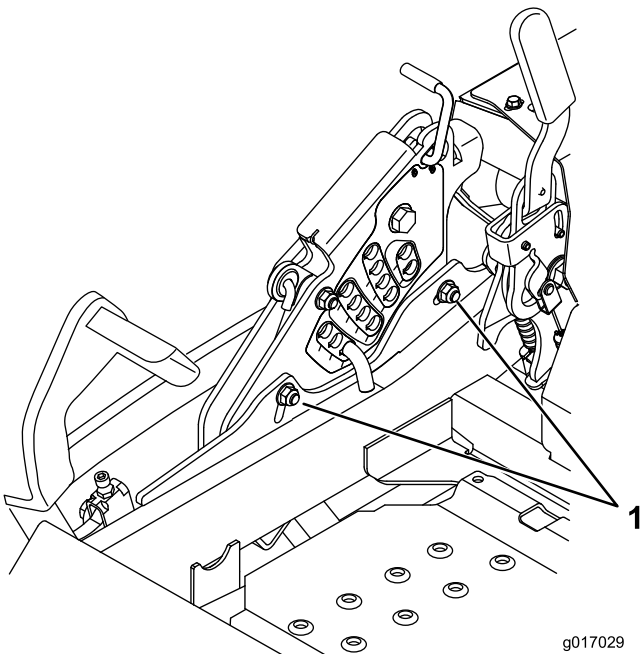

Figure 91
- 12. To adjust the single point system, loosen the two bolts at the bottom of the height of cut plate. Refer to Figure 91.
14. Tighten the two bolts at the bottom of the height of cut plate (Figure 91). Torque to 27-33 ft-lb (37-45 N-m).